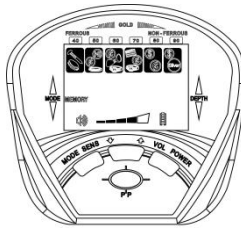

Fig.12
a) Press the MODE button again, the MEMORY cursor is lighted. And the target discrimination cursor is all lighted.(see Fig.12)
- e) If you want to search other material metals, press the “MODE” button again. The MEMORY cursor still lights up, and still shows the same as Fig.12. Then repeat the above operation.
- f) To quit the MEMORY mode, press the MODE button, making the detector return to the state of Fig.12. Then press the MODE button again, to quit the MEMORY mode, and enter the next operation mode.